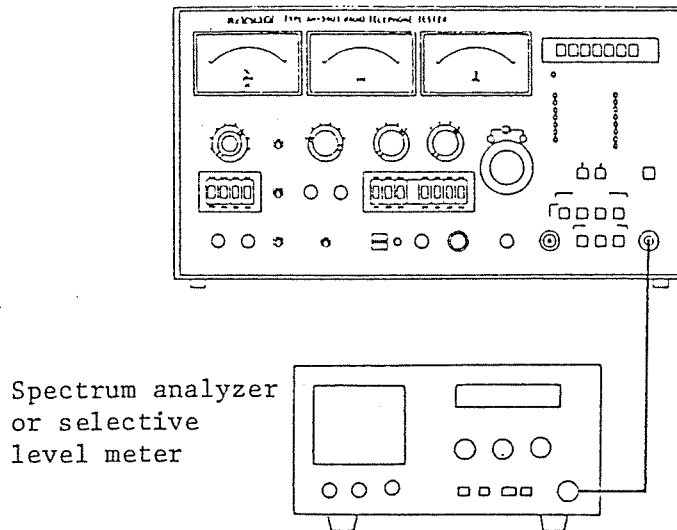

Fig. 3-5 Spurious test
- (2) Connect a spectrum analyzer or selective level meter to the [RF INPUT/OUTPUT 50 Ω MAX. 25 W] connector of this apparatus as shown in Fig. 3-5 and measure the difference between the fundamental wave level and the spurious level. Make sure that the level difference satisfies the specification.